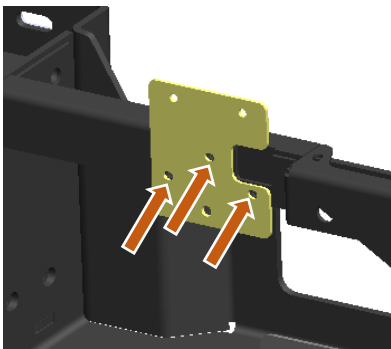

Figure 30: Radar Sensor Plate Installation
- Install the sensor mounting plate onto the bumper support using the ¼"-20 x ¾" bolts, washer, and nuts provided (Figure 30).